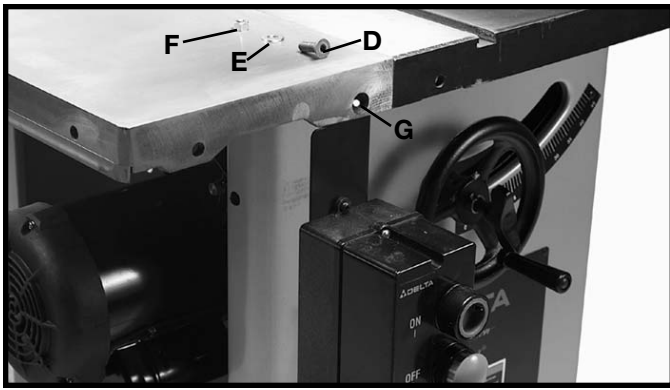
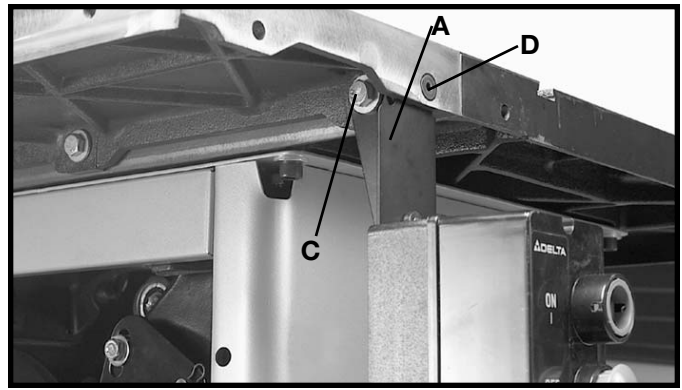

Fig. 11
Fig. 12
1. Loosely assemble switch and switch bracket (A) Fig. 12, to the inside front lip of the left extension wing with 5/16-18x1" hex flat head screw (D), 5/16" flat washer (E), and 5/16-18 hex nut (F) through hole (G) Fig. 11.
2. Attach the side of switch bracket (A) Fig. 12, to the inside of extension wing at the front of the saw using the 7/16"-20x1 1/4" screw and 7/16" lockwasher.
3. Tighten screws (C) and (D), Fig. 12, securely.